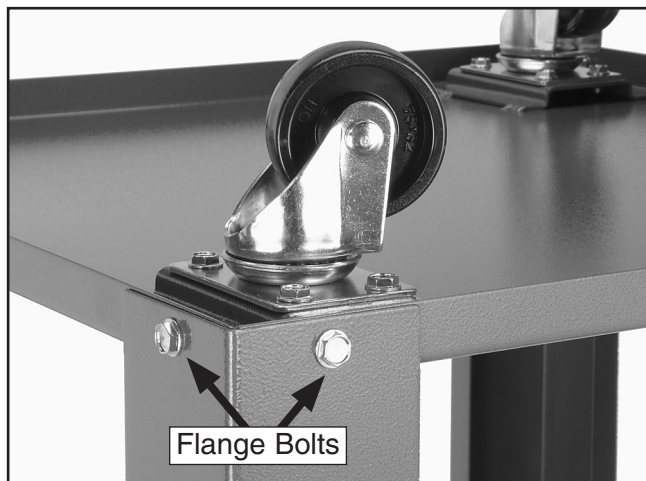

Figure 8. Base attached to supporting leg.
6. Position the base on top of the supporting legs (see **Figure 8**).